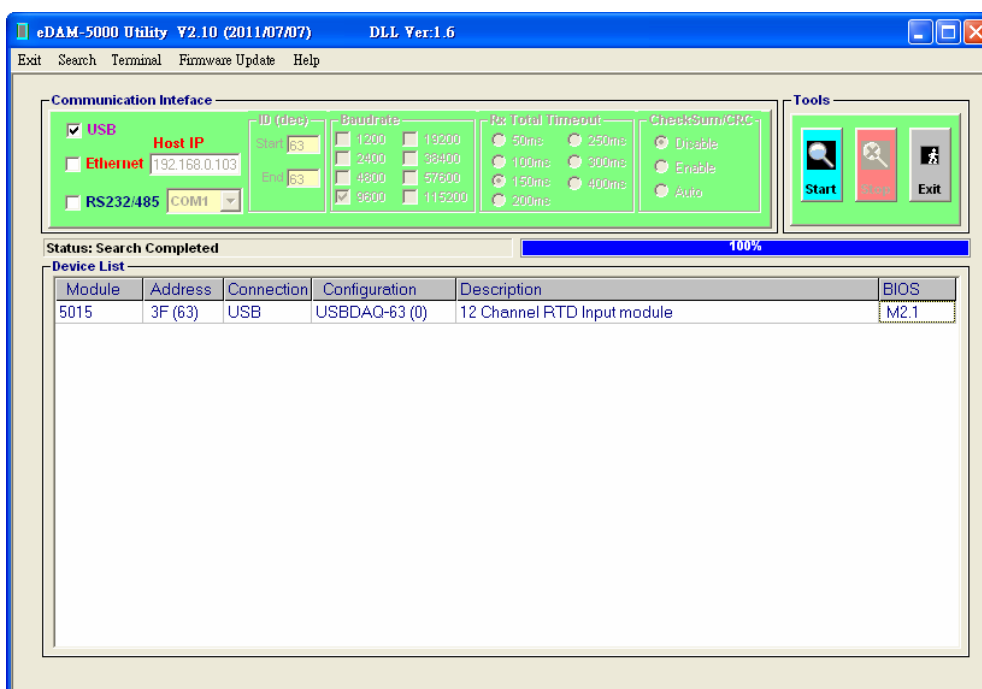

Figure 15-3
- Executes provided EDAM-5000 utility called **"E5KUtility.exe"** (see Figure 15-3)